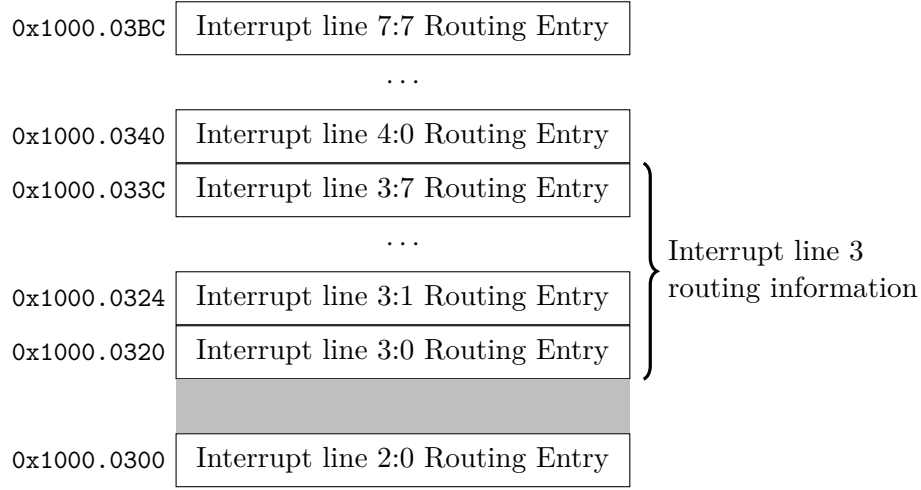

Figure 1: Interrupt Routing Table Register Address Map
7. Interrupt Routing: for systems under heavy I/O load, it is often desirable to distribute interrupts across multiple processors. μ RISC-V allows one to specify interrupt routing information per interrupt source [Section 7]. Routing information is stored in a set of programmable registers, the Interrupt Routing Table (IRT) (Fig. 1). Each IRT entry controls interrupt delivery for a single interrupt source. For each IRT entry (Table 1) the RP bit must be set to 1 and the NCPU least significative bit of destination must be set to 1 (e.g. if NCPU is equal to 8, the 8 least significative must be set to 1). When RP is 1, the interrupt is delivered to one of the possibly many processors indicated in the Destination field. The Destination field is interpreted as a processor mask, where bit i of Destination corresponds to processor ID i . The interrupt is delivered to the processor executing the lowest priority task among all contestants indicated in